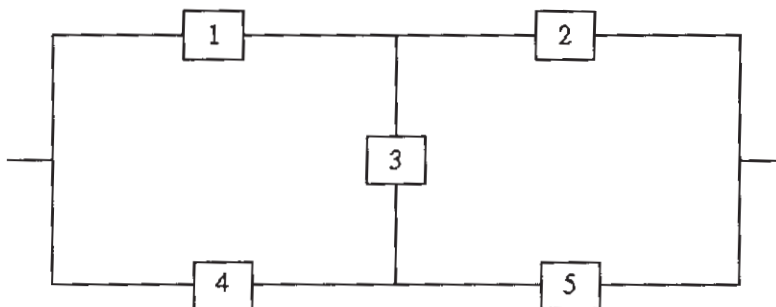

Fig. 2
- b)** Fig. 2 shows a reliability block diagram for the system. $R(1) = 0.88$, $R(2) = 0.95$, $R(3) = 0.92$, $R(4) = 0.80$, $R(5) = 0.90$, find the system reliability using conditional probability method. [8]